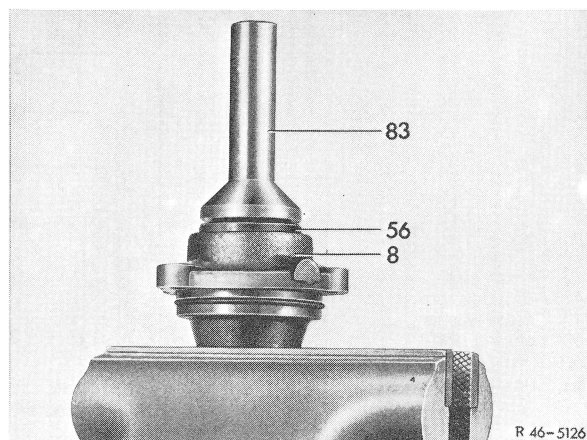

Fig. 32
32 Force radial sealing ring (56) into housing cover (8) and insert locking ring (Fig. 32).